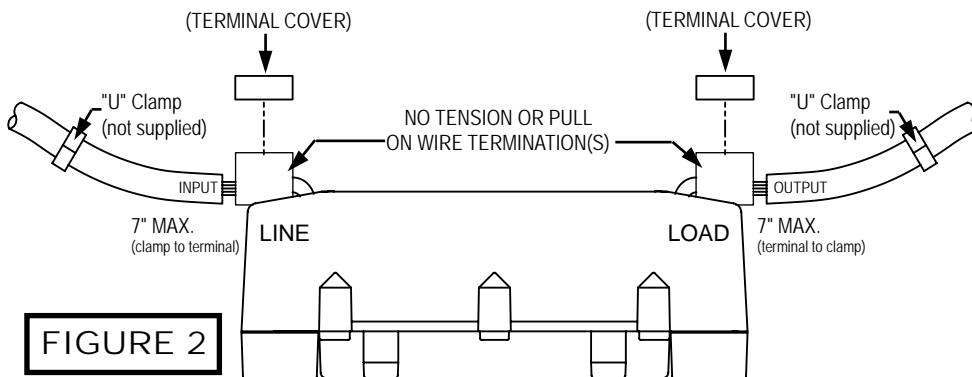

FIGURE 2
4. Route primary cable into position (over exposed terminals or into terminal block wells) - allowing enough slack to eliminate stress or tension on cable connections to be made. (See Figure 2)